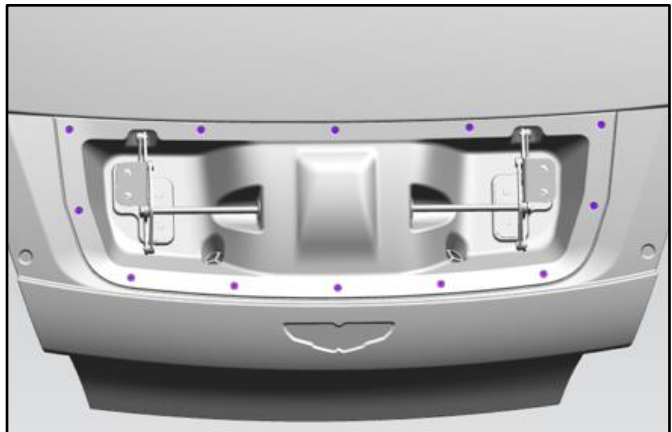

Figure 11
11. Remove the twelve screws that attach the spoiler mechanism to the boot lid. (Refer to Figure 11.)